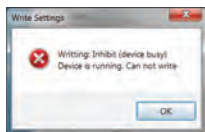

FIGURE 8
- Data-Logger shall be in Stop state to upload all setting. If the Data-Logger is still in use, the software will prompt an error message, see Fig. 8.